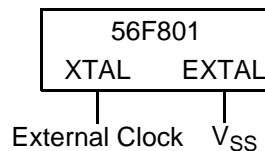

Figure 11. Connecting an External Clock Signal
The recommended method of connecting an external clock is given in Figure 11. The external clock source is connected to XTAL and the EXTAL pin is grounded.
1. See Figure 11 for details on using the recommended connection of an external clock driver.